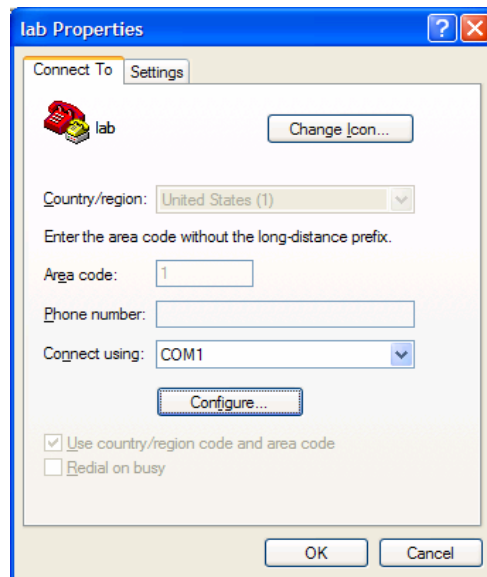

Figure 4. Selecting the COM1 port
5. From the **Connect using** pull-down menu, select **COM1** or the appropriate communications port for your installation (see Figure 4).